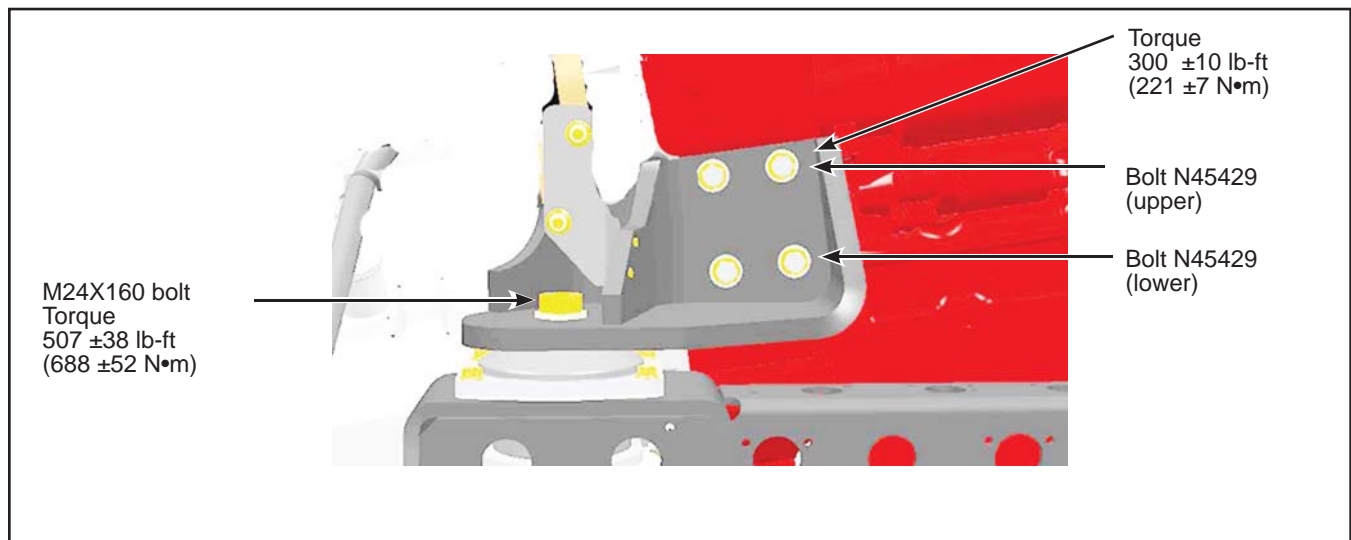

Figure 9 - Affixing Engine Support
- 1.21. Affix the engine mount to the transmission fly wheel casing with four new N45429 bolts and N31667 lockwashers, Tighten to the torque indicated in Figure 9 . Do **NOT** use any thread-locker.
Installation of lower mounting bolts is performed from underneath the vehicle. See Figure 9.
- 1.22. Install the retained M24X160 bolt and nut. Tighten to the torque indicated in Figure 9.